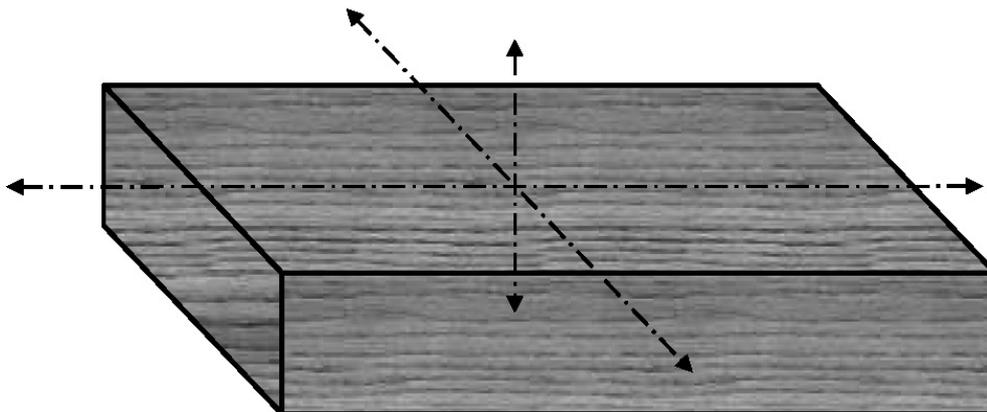

Fig. 2
- (b) The three main cutting axes of the CNC milling machine are shown in **Fig. 2**. They are the X-axis, the Y-axis and the Z-axis. Complete the diagram by correctly labelling each axis shown. [3]